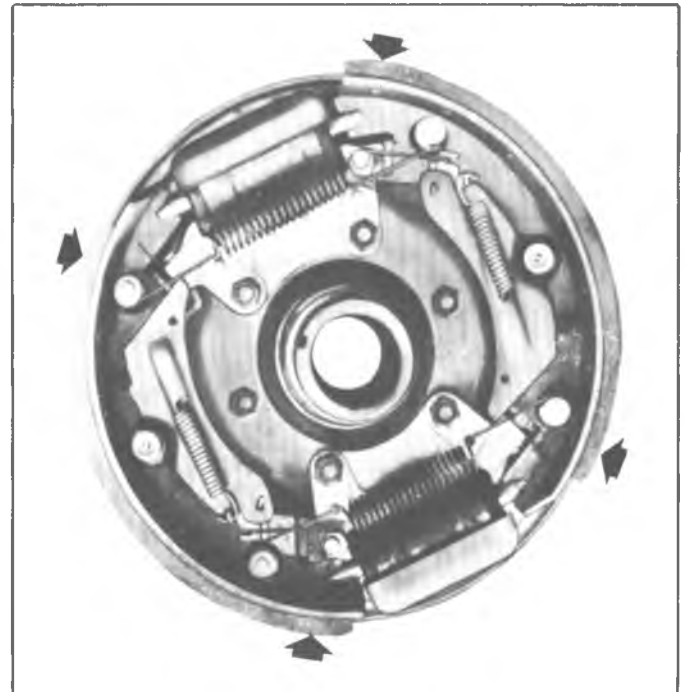

Fig. 79--Measuring Points for Shoe Centering
9. Check the brake shoes for being centered by measuring the distance from the lining surface to the edge of the flange plate at the points shown in Figure 79. To center the shoes, tap the upper or lower end of the shoes with a plastic mallet until the distances at each end become equal.